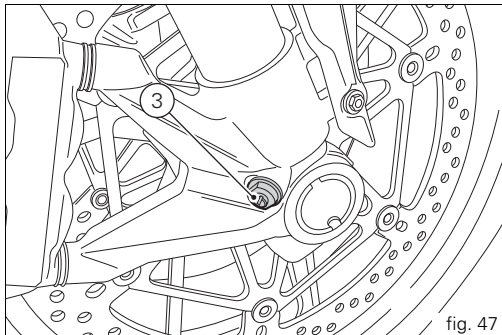

fig. 47
- 3) to adjust compression damping (fig. 47).